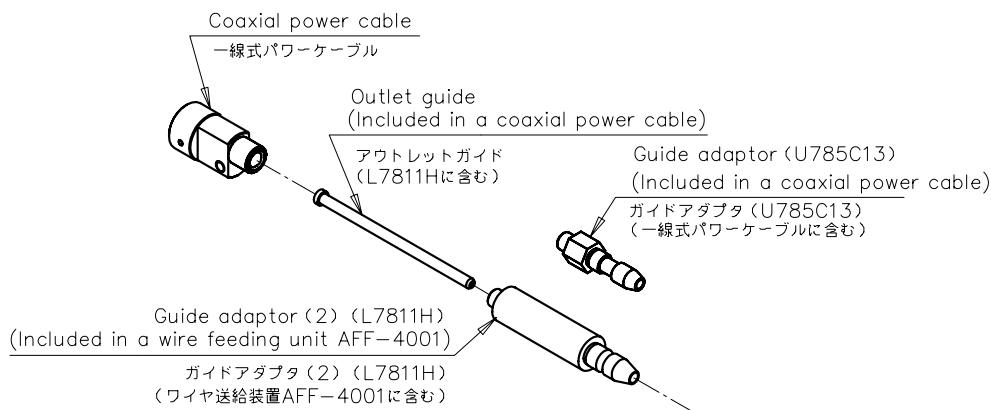

Fig. 2.3 Replacement of the guide adaptor
- ① Connect the workpiece to the output terminal “Workpiece (-)” of welding power supply using the workpiece cable.
- ② Connect one side of the coaxial power cable (including the shock sensor cable) to the front panel of the wire feeding unit, and the other side to the welding torch. About the front panel, see the external diagram shown in the previous section. At this time, replace the guide adaptor attached to the coaxial power cable in reference to Fig.2.3.
- ③ Connect the coaxial power cable to the output terminal “Torch (+)” of the welding power supply using the torch-side cable.
- ④ Plug in the control cable (10P) of wire feeding unit to the “Feeding unit” socket of welding power supply.
- ⑤ Joint the gas hose to the gas connection port at the rear of the wire feeding unit.
- ⑥ Joint the shock sensor cable attached to the wire feeding unit to the connector at the rear of the manipulator.
- ① Connect the workpiece to the output terminal “Workpiece (+)” of the welding power supply using the workpiece cable.
- ② Joint the conduit to the front of the wire feeding unit. At this time, replace the guide adaptor attached to the conduit in reference to Fig.2.3.
- ③ Joint the power cable hose to the output terminal “Torch (-)”, gas connection port, and cooling water port of the welding power supply to connect it with the TIG torch.
- ④ Connect the control cable (10P) of the welding power supply to the TIG filler wire controller (HC-71D), and the gas hose to the welding power supply.
- ⑤ Make a direct connection between the AX(II) robot controller and TIG torch.